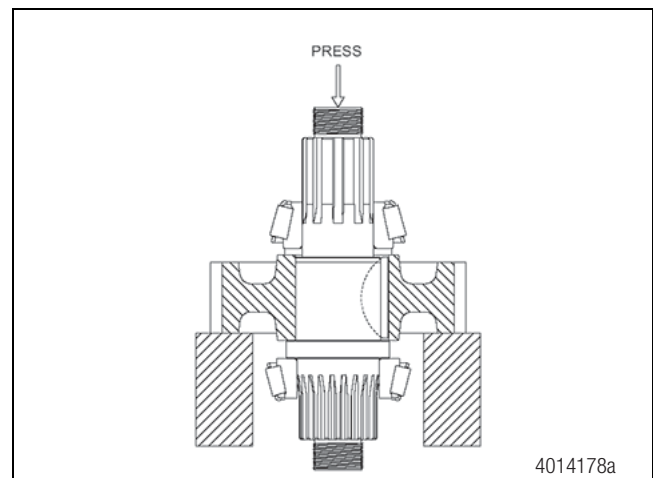

Figure 5.28
4. Place the shaft assembly in a press so that the gear is supported and the press arbor bears against the yoke-end of the shaft. Figure 5.28. Remove the bearing cone assembly, the spacer washer, and the gear. Remove the shaft key only if necessary.